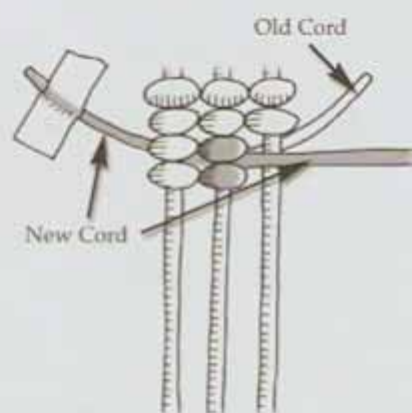

Fig. 5
2. Adding a horizontal (runner) cord with a **VDHH** - Position the new replacement cord behind the piece so that the long end emerges wherever you need to replace a cord. Tape the short end of the replacement cord to the board to hold it in place. Move the cord that needs to be replaced to the back of the piece and out of the way. Make a **VDHH** with the new cord around the vertical **AC**. Continue knotting the piece with the other original cords (see Figure 5).